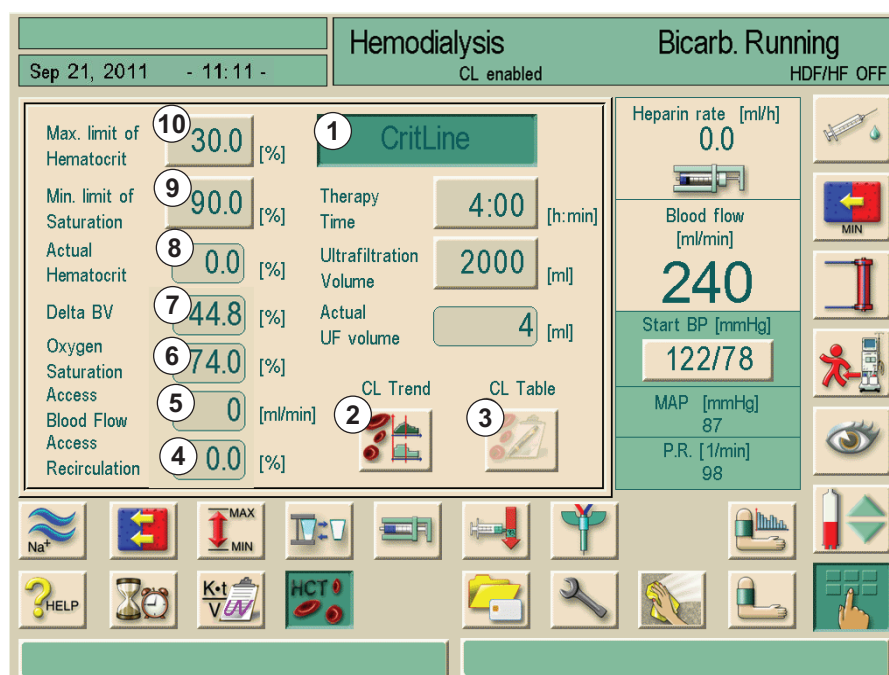

Fig. 11-33 Crit-Line Main Window
When button 2 in Fig. 11-33 Crit-Line Main Window (216) touched, the trends of hematocrit, blood volume change in percent, recirculation, access blood flow and oxygen saturation can be displayed. A trend group consisting of three trends is displayed on the screen. The trend groups can be edited by touching the trend button (5) (see chapter 12.10 Edit Parameter of Trend Groups (247)).
1. Touch button 3 in Fig. 11-33 Crit-Line Main Window (216).